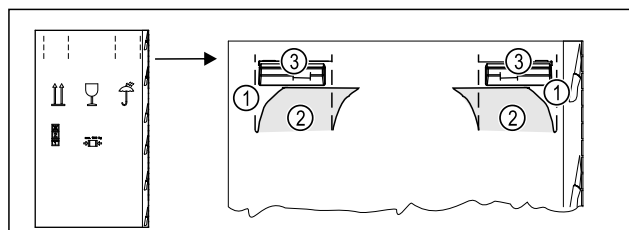

Fig. 3
- Press in the packaging carton at the top of the perforation Fig. 3 (1).
- Pull out the pressed-in flaps Fig. 3 (2).
- The right and left carrying handles Fig. 3 (3) are visible.
- Hold the appliance by the carrying handles Fig. 3 (3).